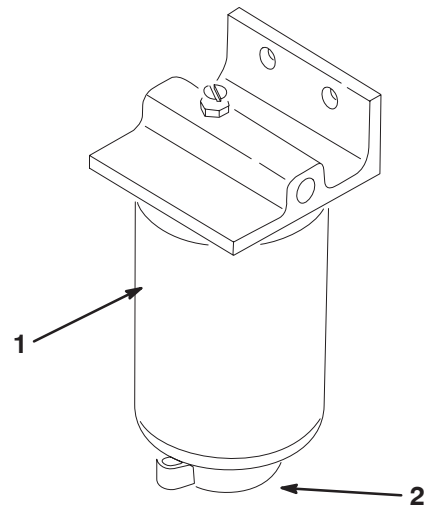

Figure 40
Drain water or other contaminants from the water separator (Fig. 40) daily.
2. Loosen the drain plug on the bottom of the filter canister (Fig. 40). Tighten the plug after draining.